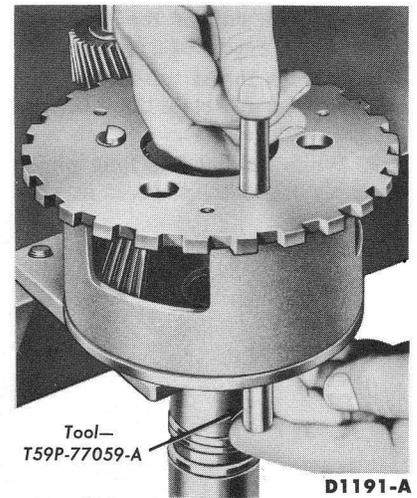
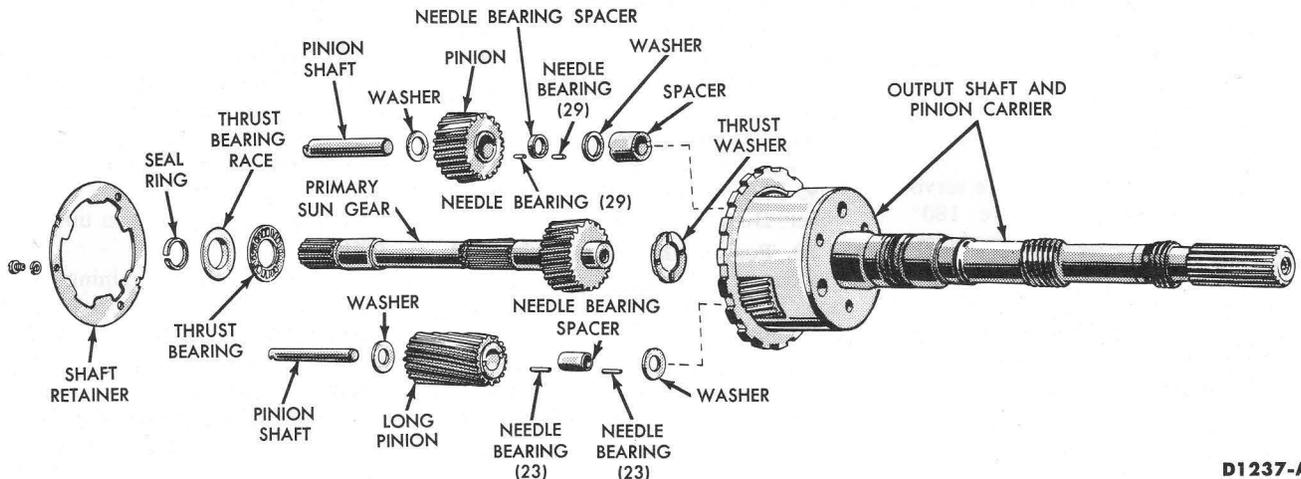

FIG. 19—Long Pinion Removal or Installation
FIG. 20—Pinion Carrier and Primary Sun Gear
6. With the tool shown in Fig. 19, push a long pinion shaft up until the tool just clears the pinion carrier bottom plate. Remove the long pinion gear with its top and bottom thrust washers out the center of the pinion carrier. With the pinion shaft, push the tool out of the gear. The shaft will hold the needle bearings, spacer, and thrust washers in position.
1. Place a spacer (Fig. 20) in a long pinion, and then insert the dummy shaft (Fig. 19) through the long pinion and needle bearing spacer.
on the primary sun gear shaft (Fig. 20). Place the bronze thrust washer on the pilot at the rear of the primary sun gear. Hold the washer in place with vaseline. **Make sure the concave side of this dished washer is toward the rear of the transmission.**
8. Place a spacer (Fig. 20) in a short pinion, and then insert a dummy shaft (Tool T59P-77059-A) through the gear and needle bearing spacer. Install a row of 29 needle bearings and a thrust washer at each end of the gear. Retain the washers in place with vaseline.
9. Place a short pinion spacer (Fig. 20) in the pinion carrier. **To maintain pinion carrier balance, the short pinion spacers must be of the same material.** Insert an extra pinion shaft (upside down) through the bottom of the pinion carrier and into the spacer. Hold the shaft so that it is flush with the top of the spacer.